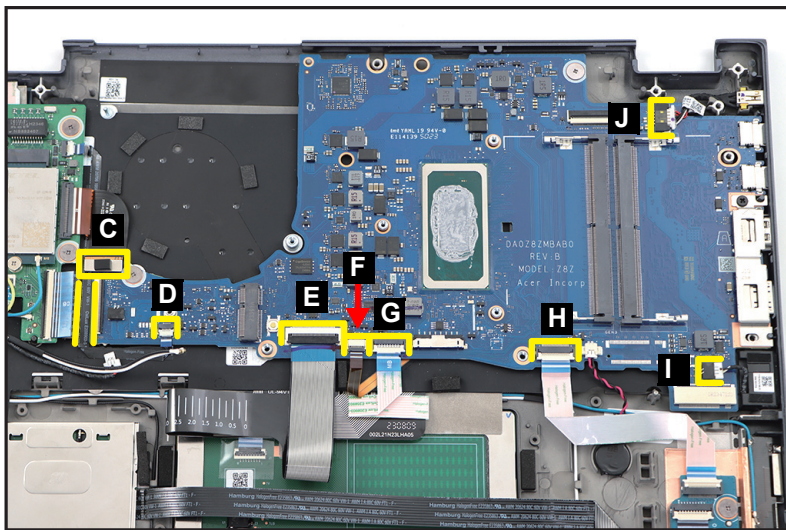

Figure 1-45. Mainboard Removal
2. Disconnect the LTE board FPC from the mainboard connector (C) (Figure 1-45).
3. Disconnect the P-sensor FFC from the mainboard connector (D). Carefully detach the middle portion (highlighted with the yellow lines) of the FFC from its underneath adhesive(Figure 1-45).
4. Disconnect the keyboard FPC from the mainboard connector (E) (Figure 1-45).
5. Disconnect the keyboard backlight FPC from the mainboard connector (F) (Figure 1-45).
6. Disconnect the touchpad FFC from the mainboard connector (G) (Figure 1-45).
7. Disconnect the card reader board FFC from the mainboard connector (H) (Figure 1-45).
8. Disconnect the left speaker cable from the mainboard connector (I) (Figure 1-45).
9. Disconnect the DC-IN cable from the mainboard connector (J) (Figure 1-45).